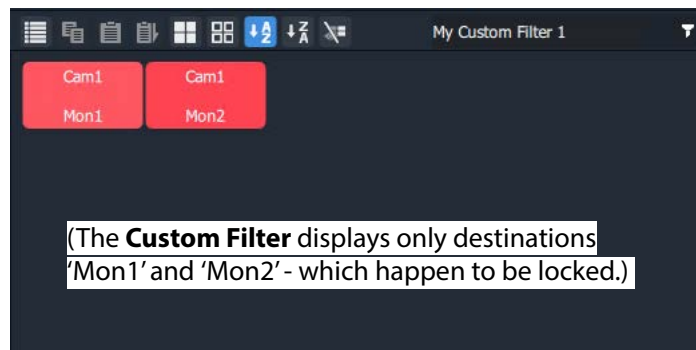

Fig. 13-64: Applied Custom Filter
- 2 Select the 'My Custom Filter 1' item. The filter is applied. In this example, only destinations 'Mon1' or 'Mon2' are shown if they have sources 'Cam1' or 'Cam2' routed to them. See Figure 13-64.